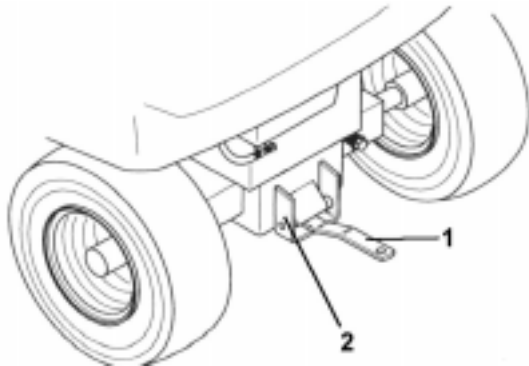

Figure 1
1. Remove tractor tow hitch by removing pin held by clips, remove rear cover plate, store parts for future use (fig. 1).